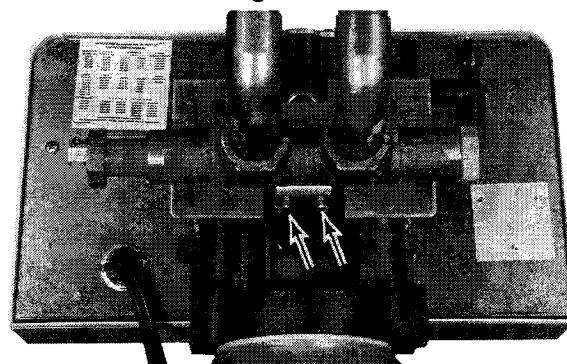

Fig. 14
- Push the U-clip down, making certain that it fully engages the two holes in the lower tab of the mounting bracket (Fig. 14), insert the two mounting bracket screws and tighten the screws into the valve body.